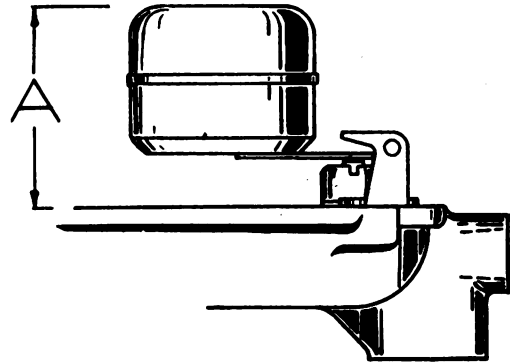

Fig. 57. Carburetor Float Adjustment
(14) Set throttle stop-screw to hold throttle slightly open, as a preliminary adjustment.
(15) Install stop-lever assembly on the shaft so that the stop lever is resting against the stop pin when the throttle plate is wide open (straight up and down in the barrel).
(16) Drill and pin stop-lever hub to shaft, using a No. 45 drill and CT63-2 taper pin.
(17) Replace economizer jet and new gasket, using a small screwdriver (one-quarter-inch blade).
(18) Replace idling jet (6), using small screwdriver ($\frac{3}{16}$ -inch blade). No gasket is required.
(19) Place main venturi (1) in position with locating groove on the locating pin.
(20) Place secondary venturi (3) in slots provided in main venturi.
(21) Replace fuel valve seat and new gasket, using C161-85 service tool.
(22) Replace fuel valve needle.
(23) Replace float assembly and float axle, using the handle end of a screwdriver to drive the float axle into the slotted end of the float-hinge bracket.
(24) Check position of float assembly for correct fuel level. As shown in Figure 57, the A dimension should be $1\frac{39}{64}$ inches plus